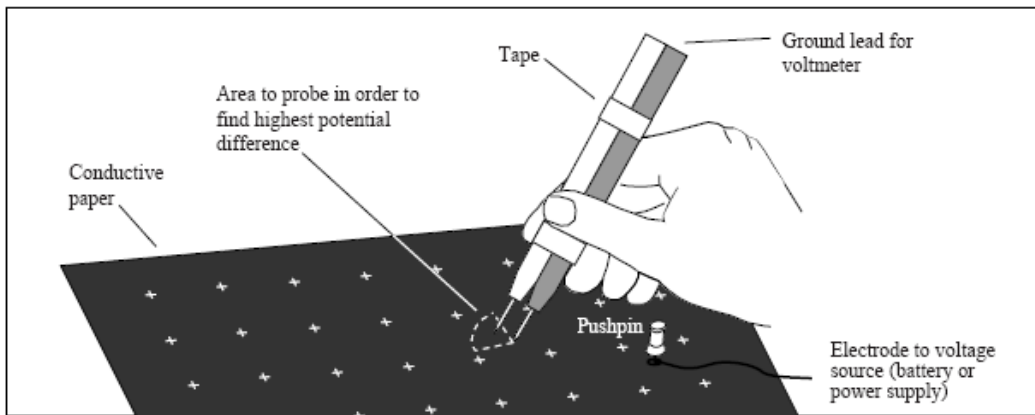

Figure 7
7. To plot field gradients (field lines), neither lead of the voltmeter is connected to an electrode. Instead, the two leads of the voltmeter will be placed on the conductive paper side-by-side at a set distance of separation (one centimeter is a useful separation to use). It is best to tape the two leads of the voltmeter together for this procedure (see Figure 7). The technique is to use the voltmeter leads to find the direction from an electrode that follows the path of greatest potential difference from point-to-point.
To plot the field lines on the conductive paper, place the voltmeter lead connected to ground near one of the dipoles. Place the other voltmeter lead on the paper and note the voltmeter reading. Now pivot the lead to several new positions while keeping the ground lead stationary (see Figure 7). Note the voltmeter readings as you touch the lead at each new spot on the paper. When the potential is the highest, draw an arrow on the paper from the ground lead to the other lead (see Figure 8). Then move the ground lead to the tip (head) of the